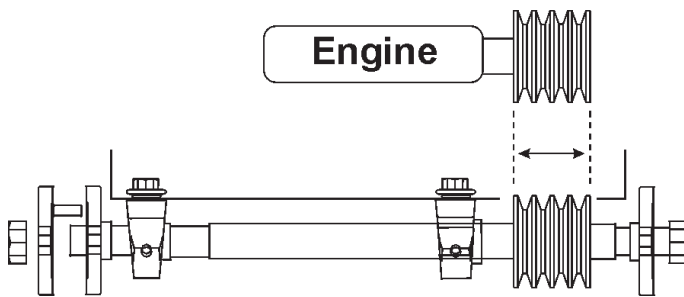

Figure 55. Pulley Alignment
- Reorient the new pulley on the shaft, and ensure precise pulley alignment by utilizing an accurate straight edge (see Figures 55 and 56).